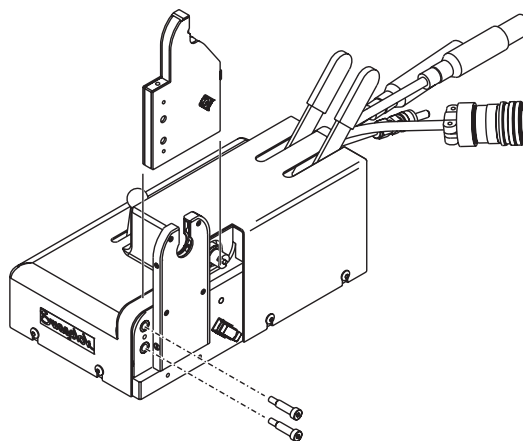

Figure 35 *Installing the Fixed Side Plate*
5. Secure the fixed side plate with screws. Tighten the fasteners 1/8 to 1/4 of a turn past finger tight. See Figure 35.